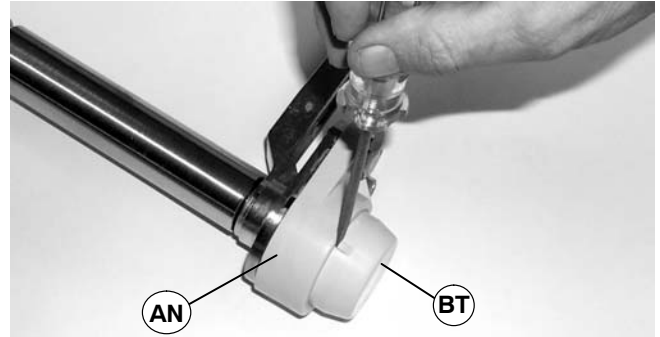

Figure 42
- Use a screwdriver to remove bearing cover (BT of Figure 42) from tail assembly (AN).
9. Install two bearing covers (BT of Figure 42) on tail assembly (AN).